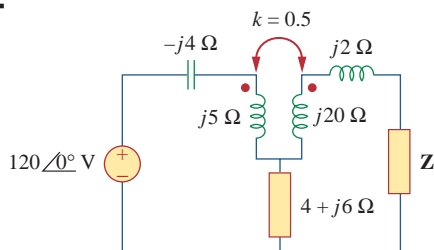

Figure 13.87
- 13.18** Find the Thevenin equivalent to the left of the load Z in the circuit of Fig. 13.87.